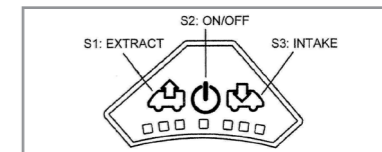

Fig.1
- The ventilator is started by the soft switch S2. The middle LED light lights up and the ventilator starts in comfort mode, this is the lowest speed (extract). See Fig 1.